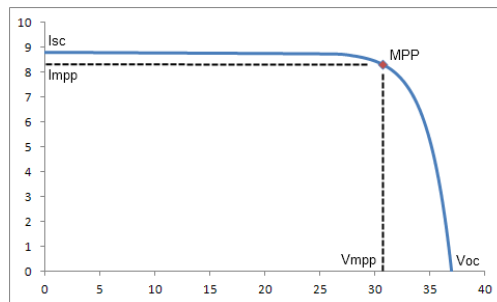

fig. 5 - 3
- Figure 5 - 4 shows the "welcome screen".
- In the photovoltaic simulation the parameters for the photovoltaic simulation can be configured. The application also renders the photovoltaic curve calculated with the entered values. It reads the voltage and current measurements of the power supply and displays these in the graph. Figure 5 - 5 shows the "Photovoltaic Simulation" application.